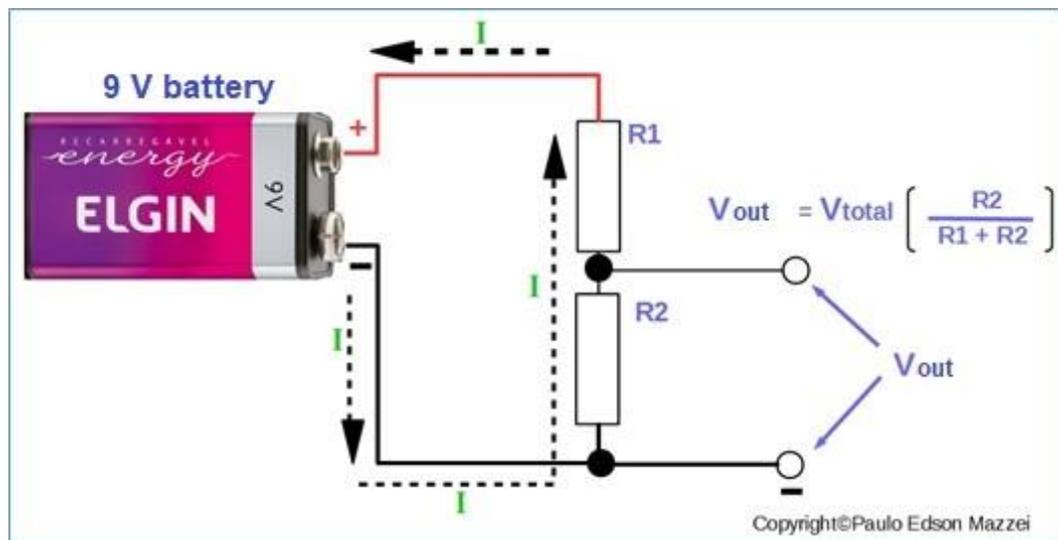

Figure 112 – Voltage divider with two resistors.
Voltage divider with resistors are very tight arrangements in electronic circuits! This is why it is important to see how it works and how to use it. See **figure 112**.
Note in relation to the voltage divider of figure 112:
- By changing the value of R2, you get other values for the output voltage. This value is calculated by the formula given in **figure 112**.